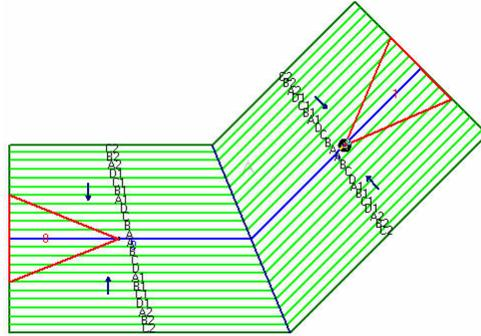

Figure 6–7 Roof with wide crickets
Your roof plan should like Figure 6–7
3. Click on two opposite corners of a box that's big enough to contain both tips of the full cricket and six panel widths of tapered insulation (see Figure 6–8).